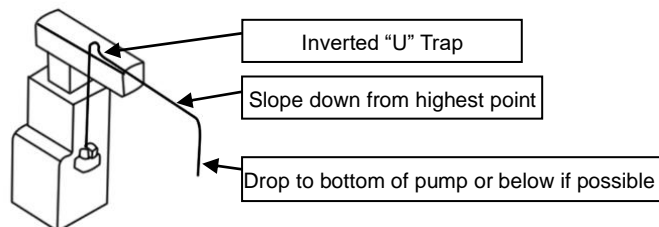

Figure 4
1. Run flexible tubing or pipe from evaporator drain into one of the three pump inlets. Be sure inlet piping is sloped downward to allow gravity flow (Figure 4). Extend the inlet piping into the tank from 1 to 3 inches to ensure that it will not interfere with proper float operation. Be sure that the inlet piping is cut at an angle where it enters the tank.